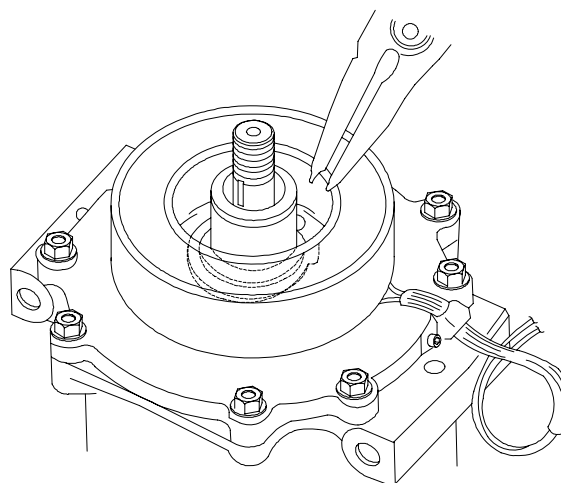

Figure 16 Field Coil Removal
45. **Field Coil Removal.** To remove the field coil assembly, proceed as follows (refer Figure 16):
46. **Field Coil Installation.** To install the field coil assembly, proceed as follows (refer Figure 16):